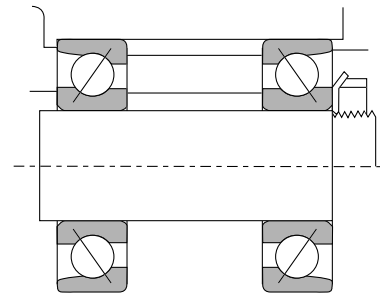

Figure 10.43 — Example of Position Preload
- Using a spacer or shim with proper dimensions to obtain the required spacing and preload. See Figure 10.43.